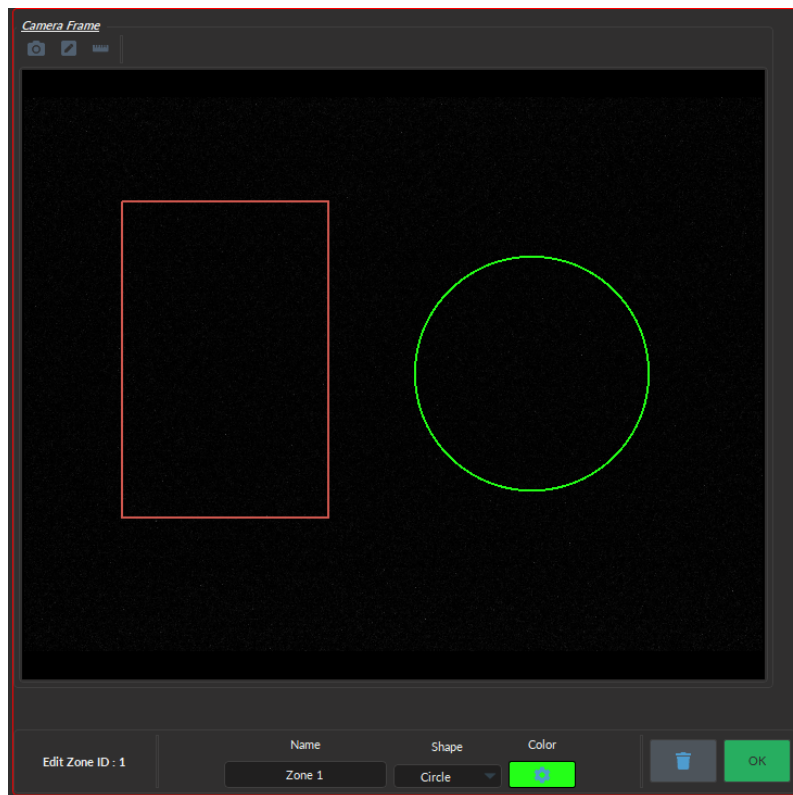

Figure 6.24: Edit zone window
- i. The **Name** (Fig. 6.24) box allows choosing a name for the zone.
- ii. The **Shape** (Fig. 6.24) drop-down menu sets the geometrical shape that will be used when drawing the zones. The user can select between: *Freehand*, *Rectangle*, *Circle*, *square*, and *polygon*.
- iii. The **Color** (Fig. 6.24) allows choosing a basic or custom color for the zone.